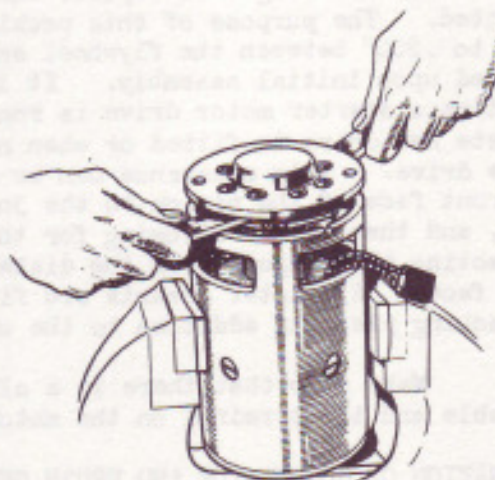

FIG. 14. REMOVING COMMUTATOR END BRACKET.
- (iv) When the commutator end bracket is sufficiently loosened it can be removed by levering from the yoke as shown (Fig.14), taking care to apply an even pressure on each lever.
- (v) The driving end bracket (7) complete with armature, drive and reduction gear can be removed from the starter yoke by gently tapping with a mallet on the commutator end of the armature shaft.